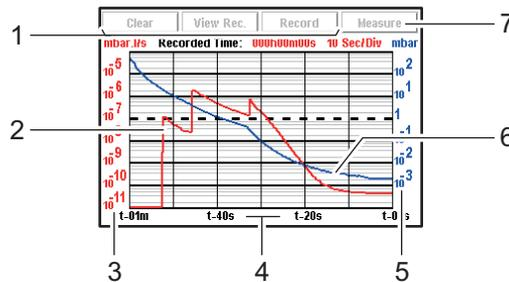

Fig. 10: "Graph" screen
→ Press **[Record]** (ref. 1 Fig. 10) to start recording
- Current window** → Display the "Graph" screen (Fig. 10) (see 7.1.1).
- Recording** → Display the "Graph" screen (Fig. 10).
- Press **[View Rec.]** to view the recording made since the last recording was deleted (ref. 1 Fig.10).
→ Press **[View Rec.]** (ref.1 Fig. 10)